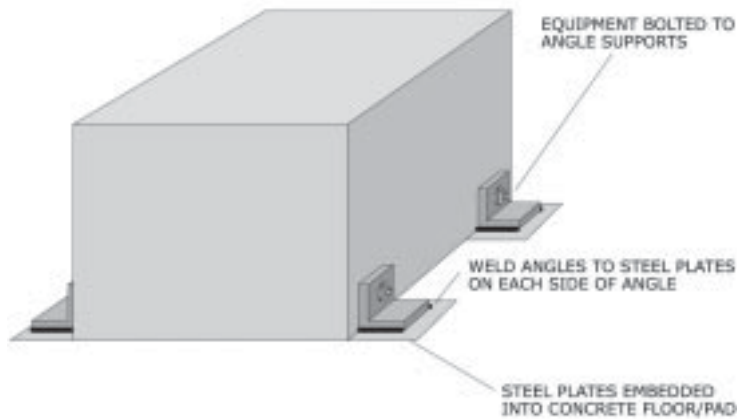

Figure 80: Four or more angles on each side of equipment welded to embedded plates. *Figure 148 (page 128) gives examples of embedded steel plates.*
- Four or more angles on each side of equipment welded to embedded plates (Figure 80, page 58).